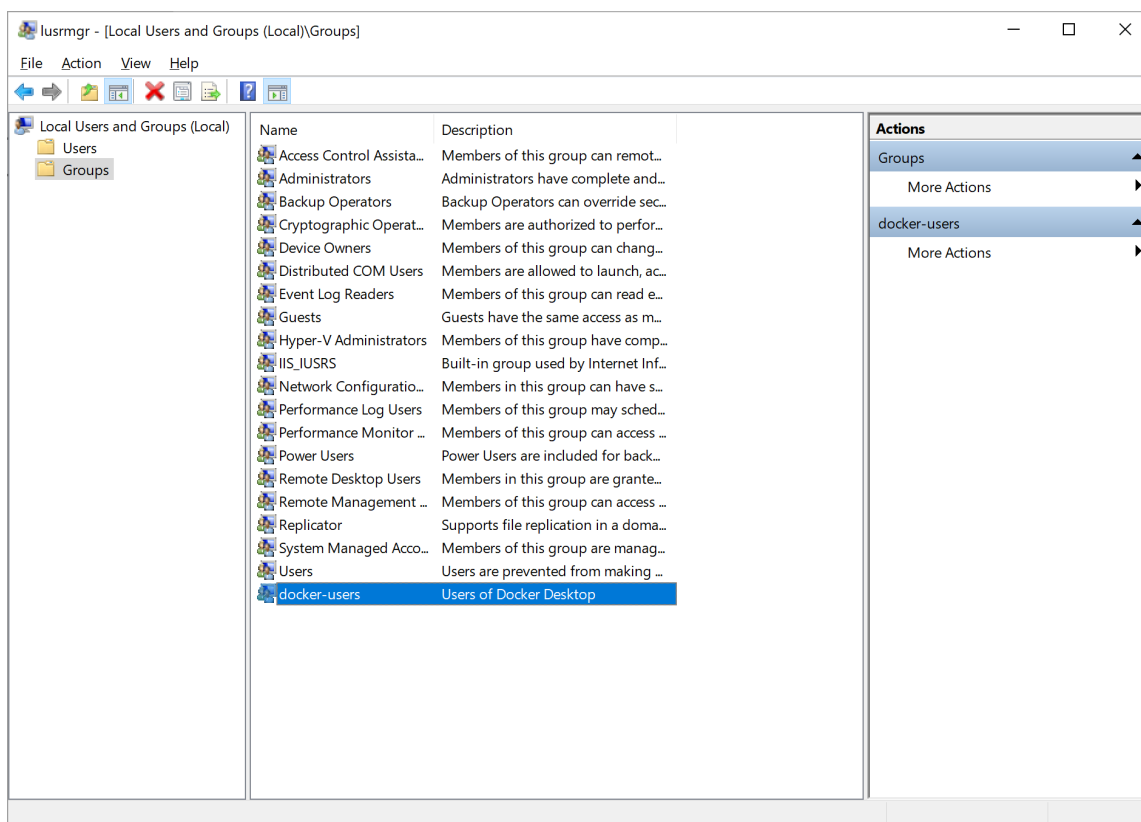

Figure 4-2 Windows Users and Groups
- Add your username to the docker-user group in Windows (see Figure 4-2).